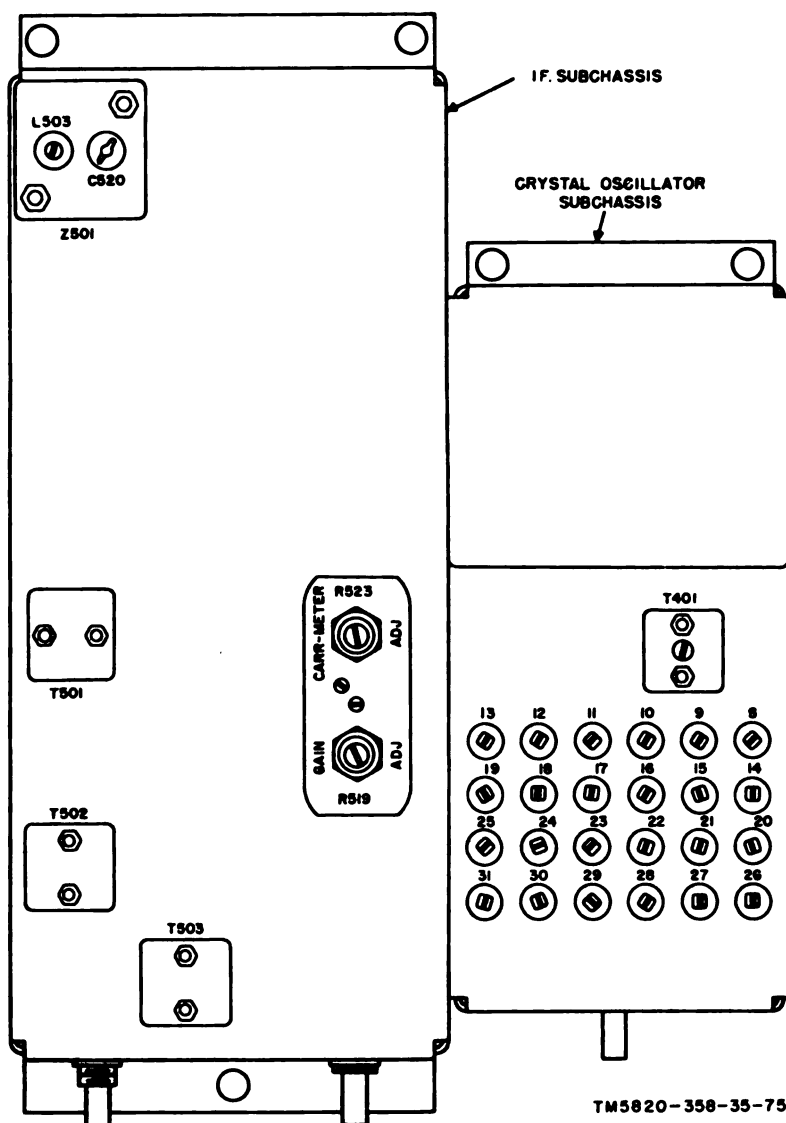

Figure 71. Crystal-oscillator and if. subchassis alignment points.
- (1) Check CR101 (para 53a).
- (2) Adjust one receiver according to the instructions given in *b* above.
- (3) Perform the procedures in *b* above for the second receiver. *Do not change the settings of the AN/URM-25(*) in any way.*
74. Crystal-Oscillator Subchassis Trimmer Alignment (fig. 71)